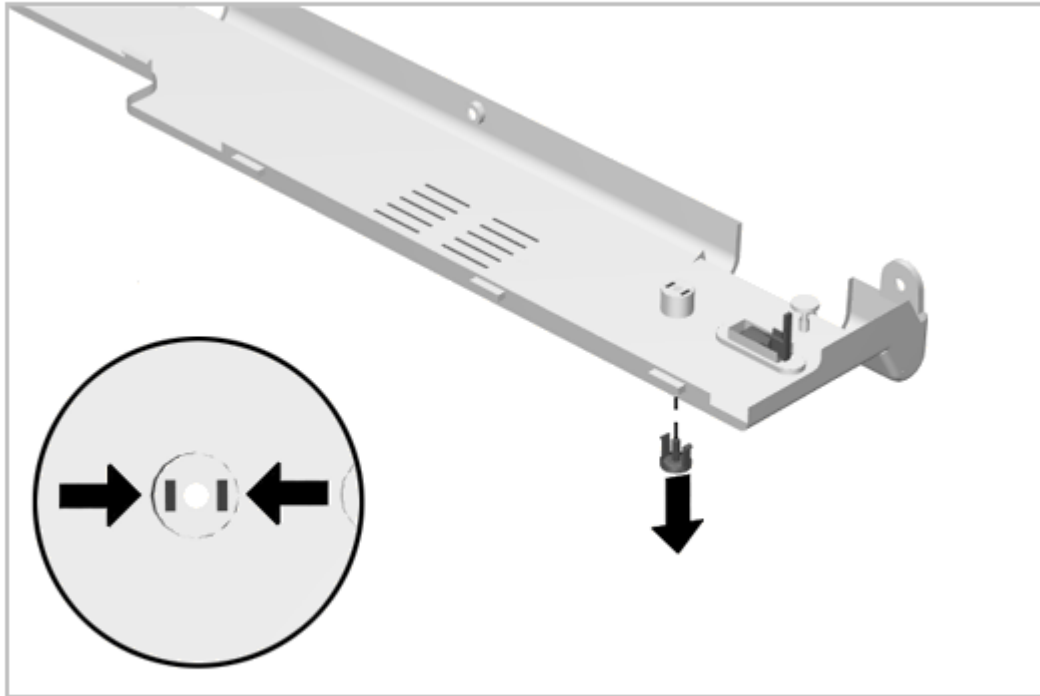

Figure 5-25. Removing the Standby (Suspend) Button
2. From the bottom side of the CPU cover, squeeze the tabs and push the button out of the cover (Figure 5-25). Note the spring associated with this button and take care not to lose it.